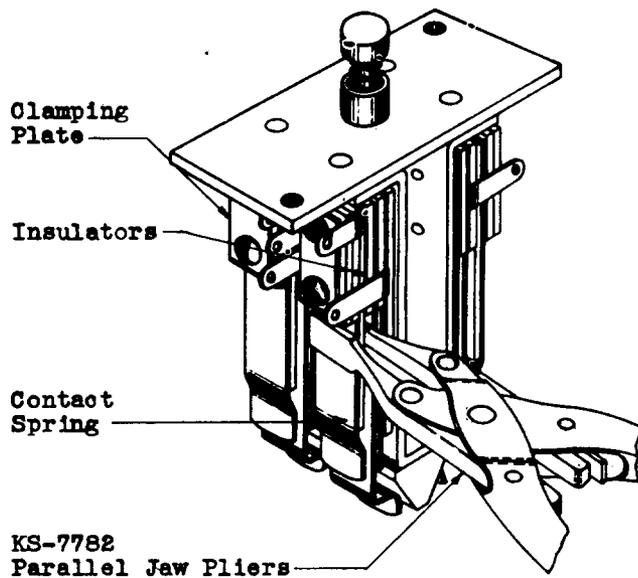

Fig. 7 - Method of Adjusting for Contact Separation
(1) In making these adjustments consult the associated circuit drawing and circuit requirement table and give proper consideration to the maintenance of any requirement for contact sequence which may be specified thereon. Unless otherwise specified adjust the springs close to the point where the spring leaves the spring assembly clamping plates and insulators, with KS-7782 pliers, as shown in Fig. 7. In adjusting the springs take care not to kink them. Kinked springs should not be straightened unless the kink interferes with the proper adjustment of the key. Removing kinks tends to weaken the spring and shorten the life of the key. In readjusting a key to meet these requirements it may be necessary if the key is equipped with more than four spring combinations to remove one or more of the spring combinations from the key frame in order to gain access to the spring combinations requiring adjustment.
(4) If the tip end of a flexible contact spring is slightly distorted it will be permissible to adjust it at the shoulder with the 485A